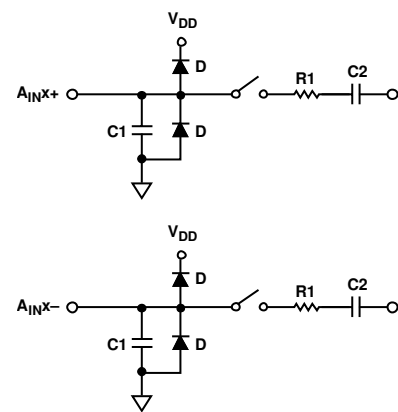

Figure 31. Equivalent Analog Input Circuit, Conversion Phase—Switches Open, Track Phase—Switches Closed
Figure 31 shows the equivalent analog input circuit of the AD7383 and the AD7384. The four diodes (D) provide ESD protection for the analog inputs. Ensure that the analog input signals do not exceed the supply rails by more than 300 mV. Exceeding the limit causes these diodes to become forward-biased and start conducting into the substrate. These diodes can conduct up to 10 mA without causing irreversible damage to the devices.
The C1 capacitors in Figure 31 are typically 3 pF and can primarily be attributed to pin capacitance. The R1 resistors are lumped components made up of the on resistance of the switches. The value of these resistors is typically about 200 Ω . The C2 capacitors are sampling capacitors of the ADC with a capacitance of 15 pF typically.